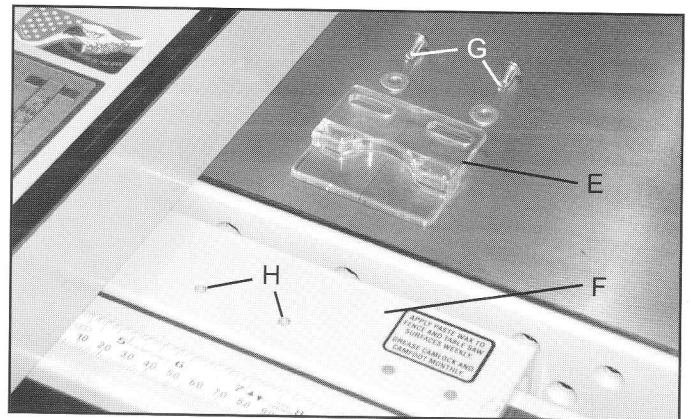

Fig. 25
3. WITHOUT MOVING THE FENCE, attach hairline pointer (E), Fig. 25 to fence crossarm (F) using two #10-32 x 3/8" round head screws and flat washers (G). Screws go through the slotted holes in the pointer and into the threaded holes (H) in the crossarm. Using the measurement from Step 2, align the black line in the pointer to the same measurement on the guide tube tape and securely tighten screws.